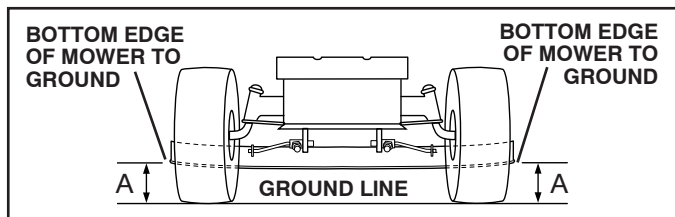

FIG. 13
**SIDE-TO-SIDE ADJUSTMENT** (See Figs. 13 and 14)